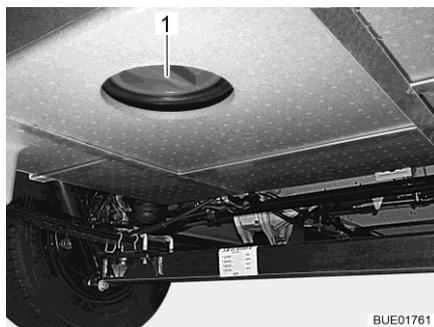

Fig. 308 Cleaning opening (waste water tank)
- Open the cleaning opening (Fig. 308,1) on the waste water tank and the drain cock.